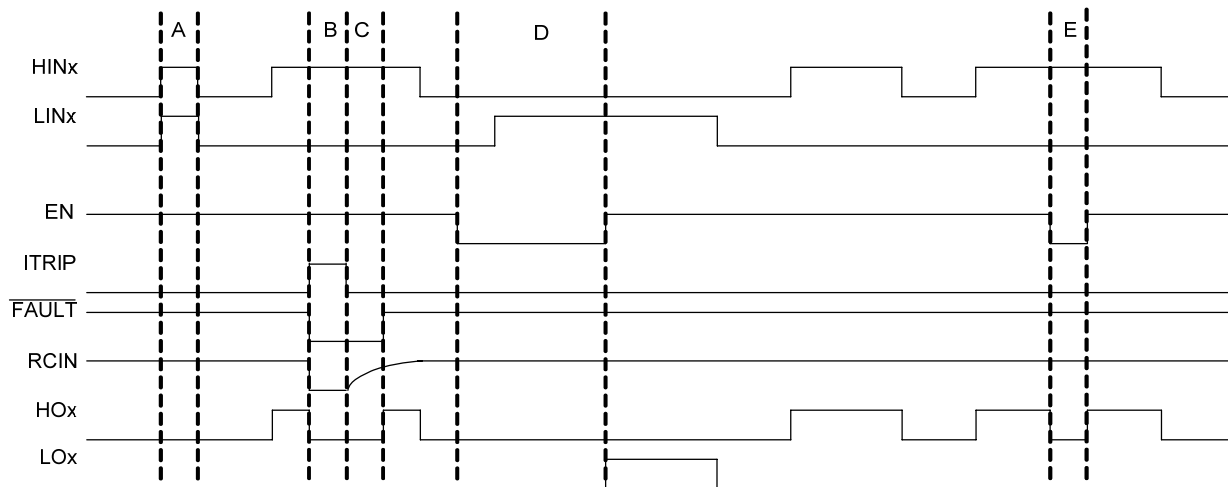
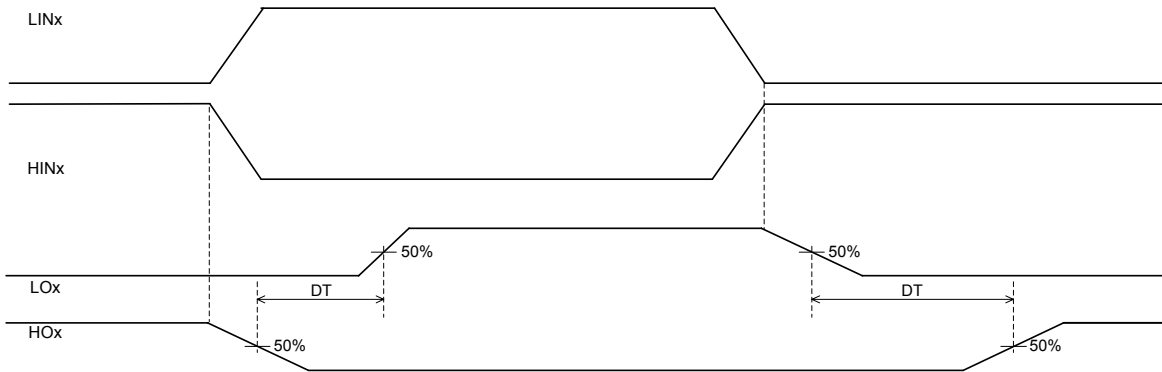

Figure 4: Input/output timing diagram
Figure 6: Illustration of deadtime
During interval A of Figure 4, the HVIC has received the command to turn-on both the high- and low-side switches at the same time; as a result, the shoot-through protection of the HVIC has prevented this condition and both the high- and low-side output are held in the off state.
Interval B of Figures 4 and 5 shows that the signal on the ITRIP input pin has gone from a low to a high state; as a result, all of the gate drive outputs have been disabled (i.e., see that HOx has returned to the low state; LOx is also held low), the voltage on the RCIN pin has been pulled to 0 V, and a fault is reported by the FAULT output transitioning to the low state. Once the ITRIP input has returned to the low state, the output will remain disabled and the fault condition reported until the voltage on the RCIN pin charges up to $V_{RCIN,TH}$ (see interval C in Figure 6); the charging characteristics are dictated by the RC network attached to the RCIN pin.
During intervals D and E of Figure 4, we can see that the enable (EN) pin has been pulled low (as is the case when the driver IC has received a command from the control IC to shutdown); this results in the outputs (HOx and LOx) being held in the low state until the enable pin is pulled high.
This family of HVICs features integrated deadtime protection circuitry. The deadtime for these ICs is fixed; other ICs within IR's HVIC portfolio feature programmable deadtime for greater design flexibility. The deadtime feature inserts a time period (a minimum deadtime) in which both the high- and low-side power switches are held off; this is done to ensure that the power switch being turned off has fully turned off before the second power switch is turned on. This minimum deadtime is automatically inserted whenever the external deadtime is shorter than DT; external deadtimes larger than DT are not modified by the gate driver. Figure 6 illustrates the deadtime period and the relationship between the output gate signals.
The deadtime circuitry of the IRS26310D is matched with respect to the high- and low-side outputs of a given channel; additionally, the deadtimes of each of the three channels are matched. Figure 6 defines the two deadtime parameters (i.e., DT_1 and DT_2) of a specific channel; the deadtime matching parameter (MDT) associated with the IRS26310D specifies the maximum difference between DT_1 and DT_2 . The MDT parameter also applies when comparing the DT of one channel of the IRS26310D to that of another.